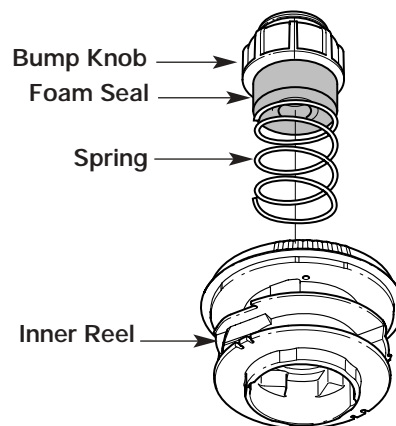

Fig. 24
1. Turn the bump knob counterclockwise and remove the bump knob, spring and foam seal (Fig. 24).
2. Pull out the bump knob, spring and foam seal (Fig. 24).
7. Place the bump knob, spring and foam seal onto the inner reel (Fig. 24).